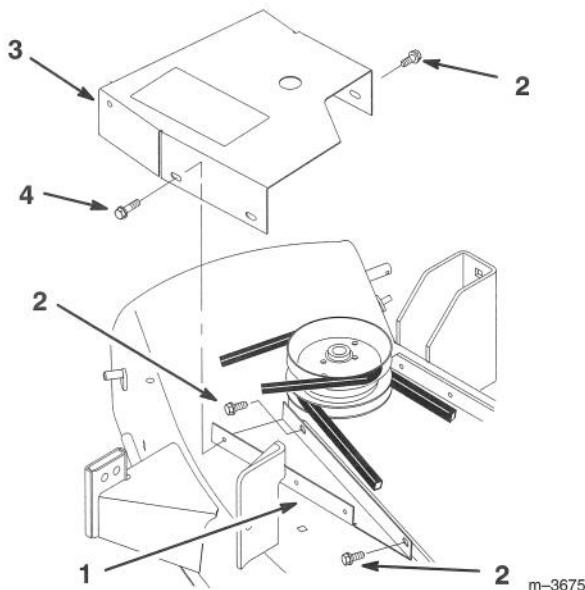

Figure 29
2. Remove the mower belt cover and belt cover bracket from the right side pulley (Fig 29).